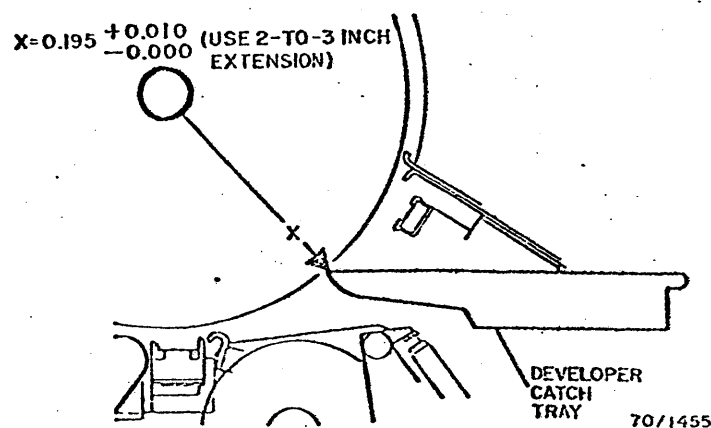

Fig. 3-99. Developer Tray
2. Adjust the tray to the dimension shown (both inboard and outboard) in Fig. 3-99.